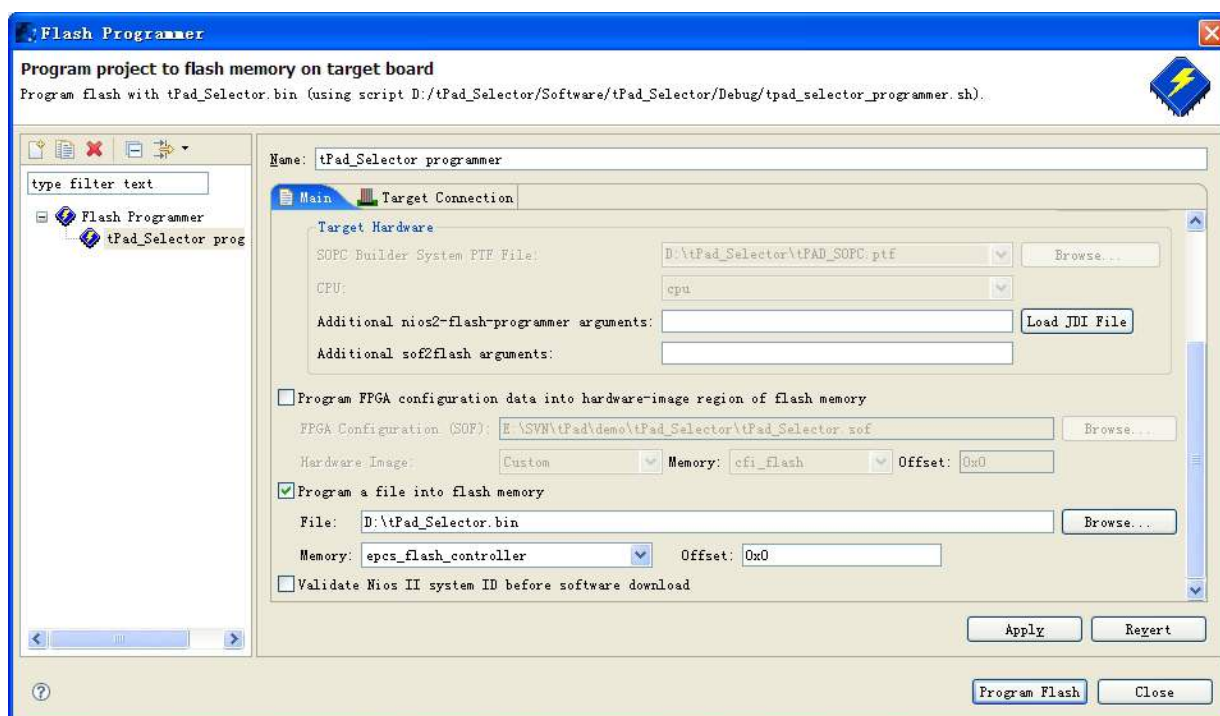

Figure 5-2 Programming Flash settings
- Choose Program a file into memory, choose your VEEK_Selector.bin file. See **Figure 5-2**